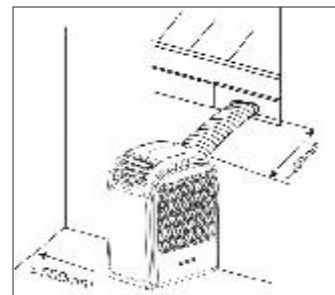

Fig. 1
1) Ensure at least 50 cm of free space on the filtering side of the unit (Fig. 1).